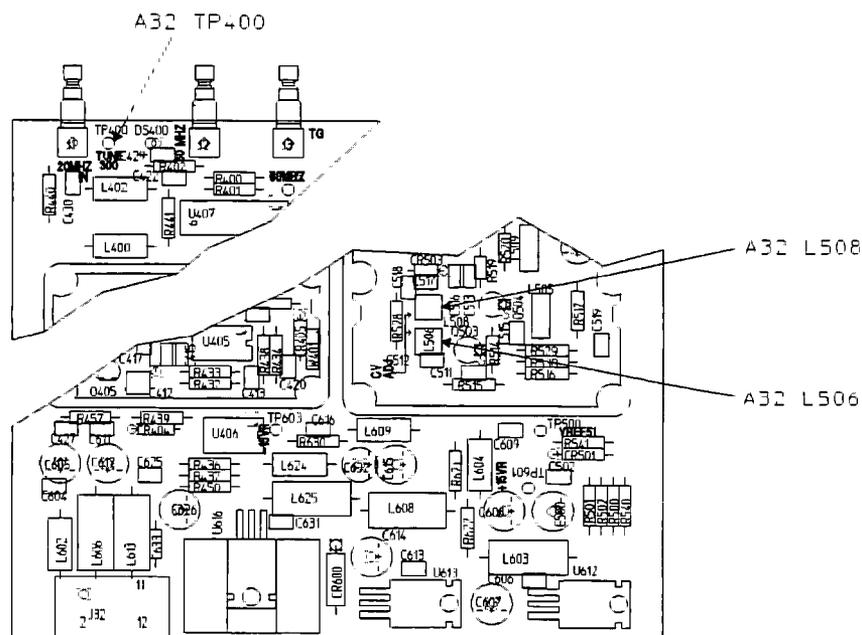

Figure 1-1. A32 300 MHz Component Locator
3. Connect the multimeter's input terminal to A32 TP400 (see figure 1-1) and its ground terminal to chassis ground.